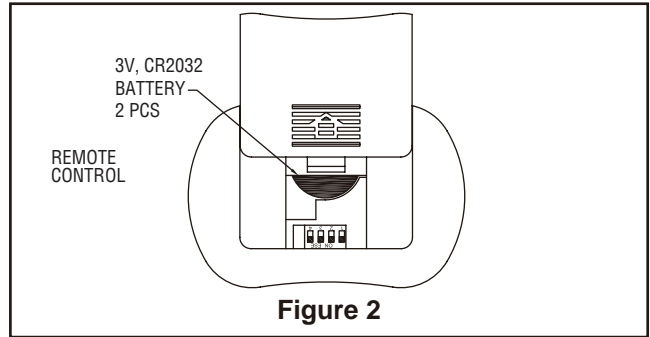

Figure 2
- 2. To make fan operational, install two piece of 3-volt battery in hand-held remote transmitter, (if not using for long periods of time, remove battery to prevent damage to transmitter). Store the remote away from excessive heat or humidity (Figure 2).